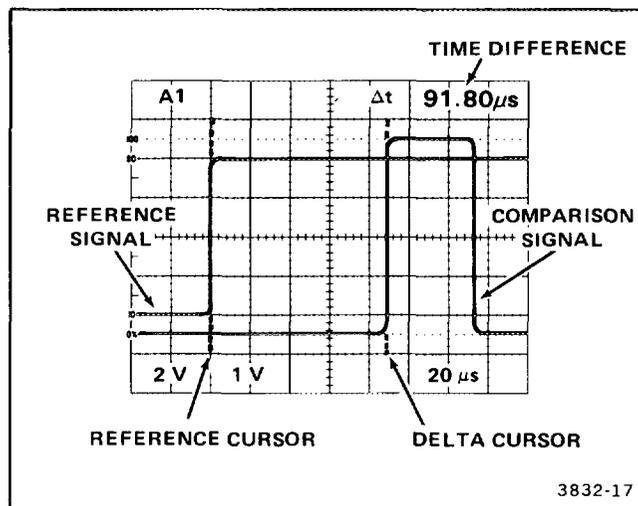

Figure 6-5. Time difference between two time-related pulses (cursor method).
- Activate the Delta Time measurement function and set the cursors to similar reference points (such as leading edges) on the two signal displays (see Figure 6-5).